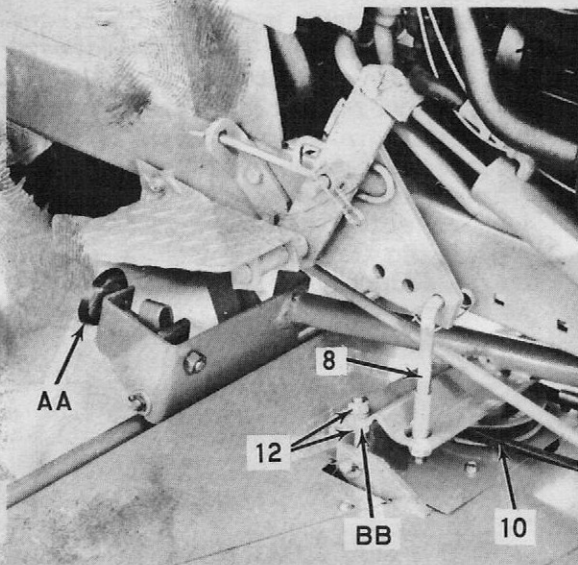

Figure 15. Installing the Drive Belt and Lift Rods
8. Connect the lift rods to the front hole in the tractor lift levers. Tighten the locknuts onto the lower end of the lift rods as shown in Figures 15 and 16 so both start to lift mower at same time.
10. Turn the adjusting crank clockwise until the drive belt can be placed over the deck pulley without stretching, Figure 15. Belt must be positioned on PTO pulley and idler pulleys before placing over deck pulley.
the deck as possible. Set mower for approximately 2" cutting height using the adjusting knob, Reference "AA", Figure 15, or by placing a two inch block under each of blade cutting edges.